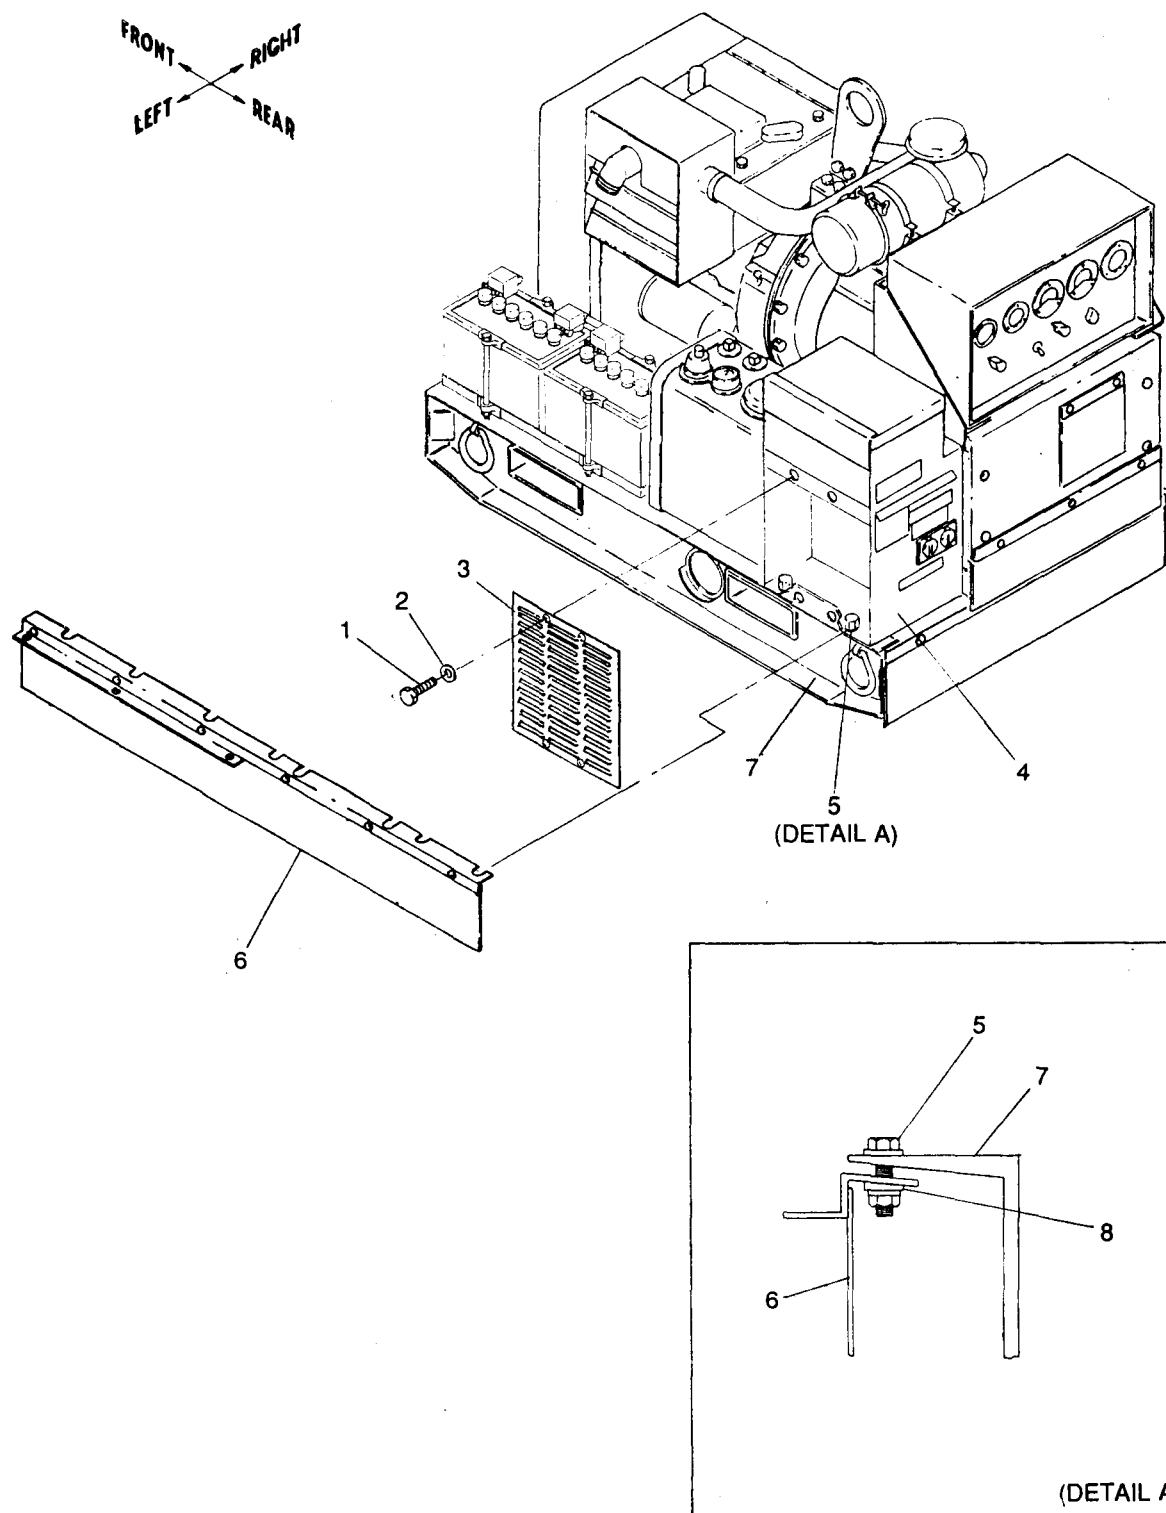

Figure 10-2. Installation of Left Support Assembly
(1) Refer to figure 10-2 to remove four screws (1) and lockwashers (2) securing access plate (3) to AC output control box assembly (4).
(2) Cut a 50 in. length of adhesive backed teflon tape (listed in Table 10-1, item 2). Apply adhesive backed teflon tape to a clean left support assembly top surface (surface that mounts against underside of skid frame). Use hand pressure to remove air bubbles. Clear teflon tape away from screw slots.
(3) Loosen six existing screws (5) and slide left support assembly (6) between skid (7) and bevel washers (8) as shown in figure 10-2, detail A.
(4) Torque six existing screws (5) to 26 \pm 2 ft-lbs dry.
(5) Refer to figure 10-2 to replace four screws (1) and lockwashers (2) which secure access plate (3) to AC output control box assembly (4).